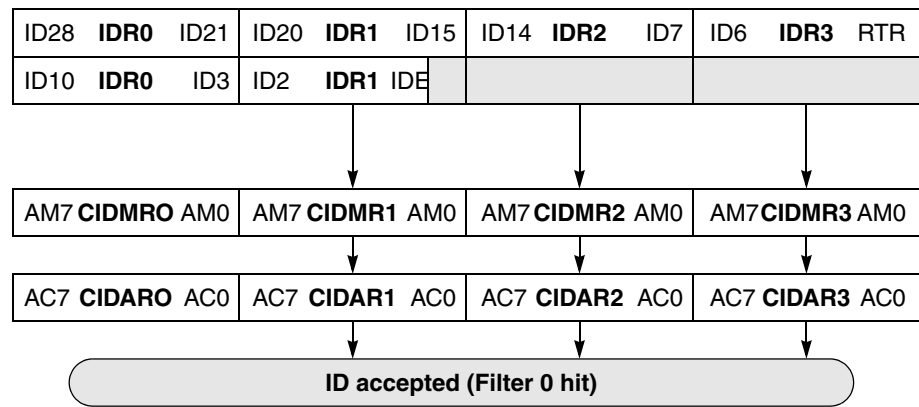

**Figure 18-3. 32-bit Maskable Identifier Acceptance Filters**
- Two identifier acceptance filters, each to be applied to the full 29 bits of the identifier and to the following bits of the CAN frame: RTR, IDE, SRR. This mode implements a two filters for a full length CAN 2.0B compliant extended identifier. Figure 18-3 shows how the first 32-bit filter bank (CIDAR0–3, CIDMR0–3) produces a filter 0 hit. Similarly, the second filter bank (CIDAR4–7, CIDMR4–7) produces a filter 1 hit.